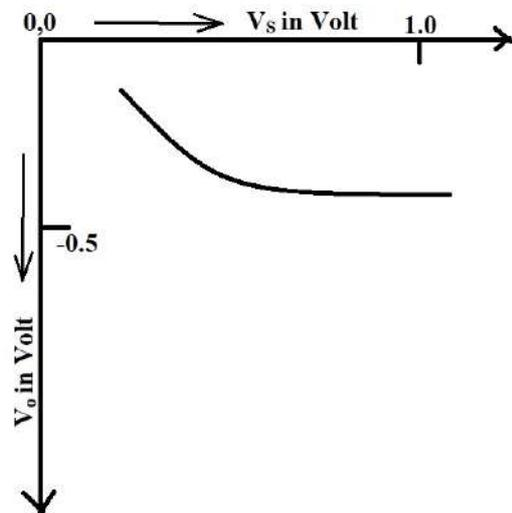
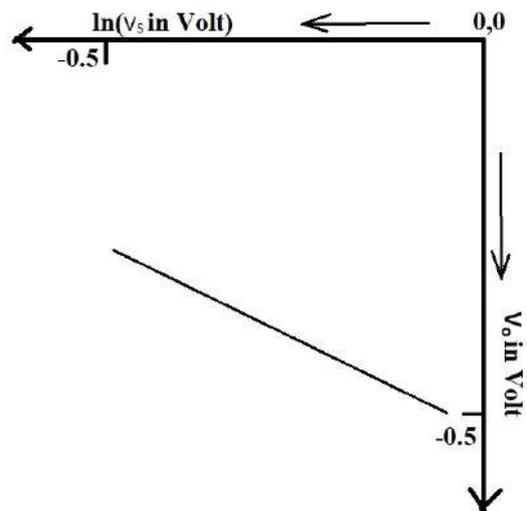

Fig. 1.3: V_S vs V_O
Fig. 1.4: $\ln(V_S)$ vs V_O
- Plot V_O as a function of V_S . The graph will be of the nature as shown in Fig.1.3. If V_O is plotted as a function of $\ln V_S$, the graph will be a straight line as shown in Fig. 1.4.